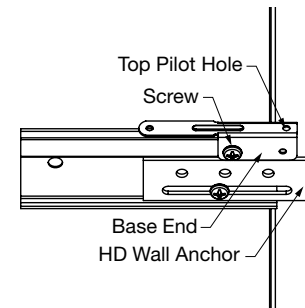

Fig 80
- Secure the main or XL cross tee to the perimeter with the Universal HD Anchor, using a screw through the slot at unattached walls or a screw through a hole at attached walls. Place a PAC over the bulb of the grid with the base side closest to the perimeter. Place so that the pilot hole on the top of the base end is located at the correct 6" O.C. increment to match the full-size panel dimension. (**NOTE:** with mains, the top pilot hole on the base will align directly above a rout hole). This PAC will provide a location that will act as the connection point for the intersecting grid members (**Fig 80**).